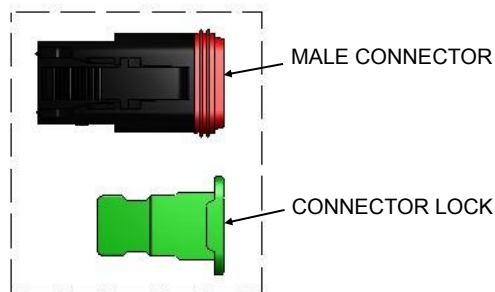

Figure 4.3.3a
1. Each LHD is supplied with an uninstalled, bagged male connector and connector lock (See Figure 4.3.3a). Locate these items.